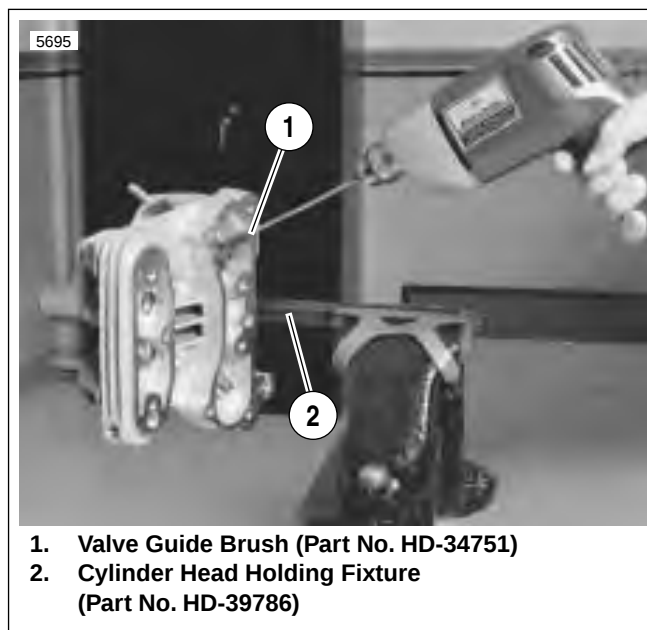

Figure 3-20. Cleaning Valve Guides
7. See Figure 3-20. Thoroughly clean valve guide bores using VALVE GUIDE BRUSH (1) (Part No. HD-34751) and hot soapy water.